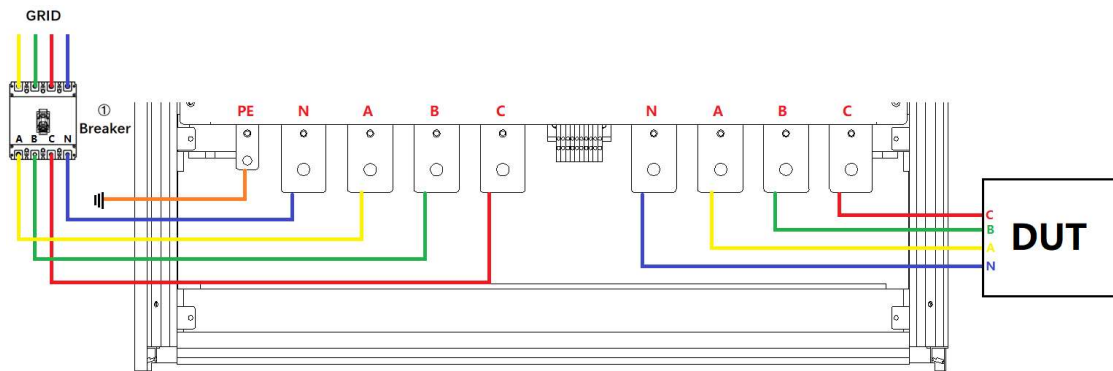

Figure 3-11
Power off circuit breaker of the AC input side (Figure 3-11①).